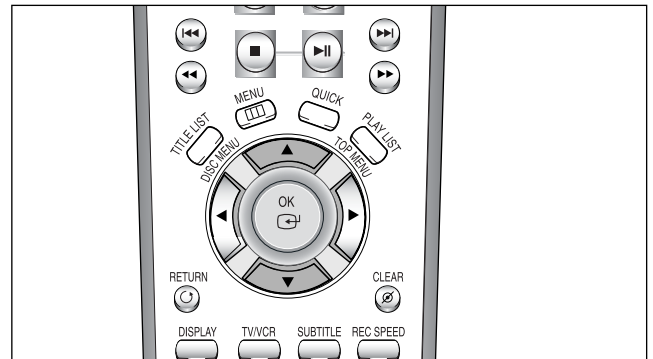

Fig. 3-1 Remote Controller
- 4) Press the **OK** button on the remote control (Fig. 3-1).